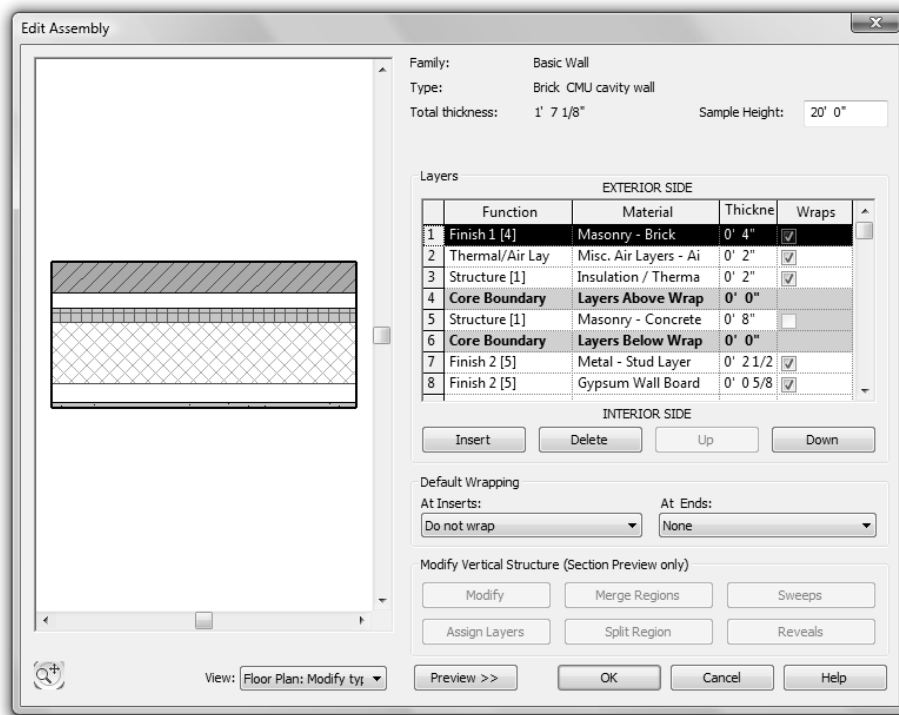

Figure 3-2.8 Edit Structure for new wall type
16. Your dialog should look like **Figure 3-2.8**. Click **OK** to close all dialog boxes.